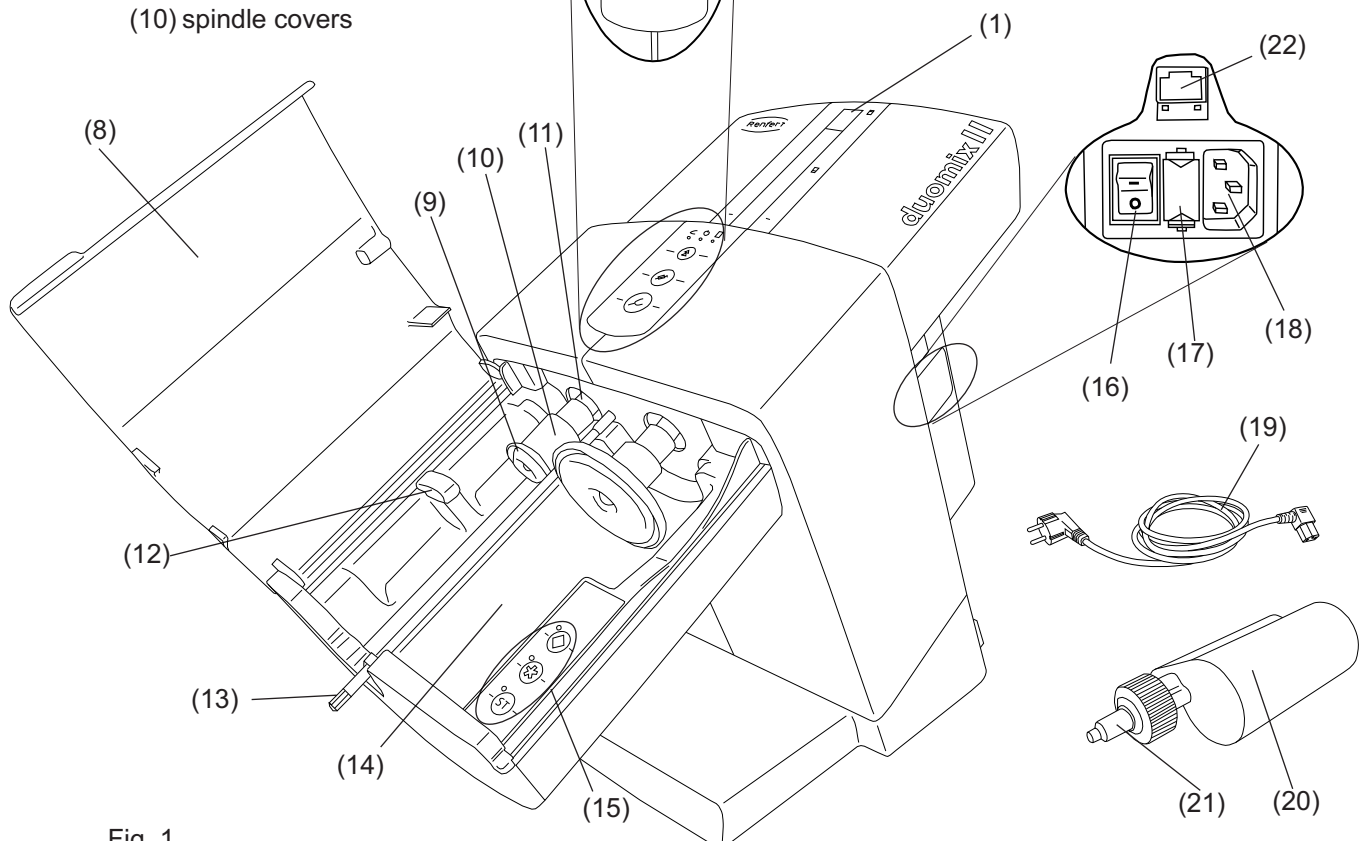

Fig. 1
- Connect the provided power cord (19, fig. 1) to the mains connection socket (18).
- Switch the unit on at the mains power switch (16).
- Close the unit cover (8, fig. 1).
- Press the retract key (4) .
- The pressure discs (9, fig. 1) retract to their home position where they stop.
- Remove the shipping restraint (23).
- Close the unit cover (8, fig. 1)
- Press the retract key (4).
- Open the unit cover (8, fig. 1).
- Place cartridge (20) in unit attached. Please make sure that the cartridge is fitted into place under the catch (12).
- Select mixing program (15), cf. also section 5.1.1.
- All impression materials which are not marked with these symbols must be processed with the programme (ST).
- The cover will only close if the cartridge has been properly installed. The red “Unit cover open” LED (7, fig. 1) will remain on until the unit cover has been properly closed.